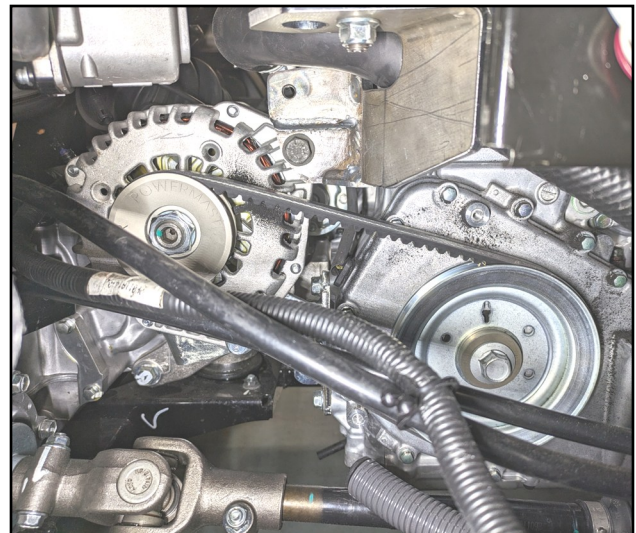

Fig. 3.9 (Install Belt)
- 3.9** Loosen the tensioner so the alternator is rotated all the way down and install new belt provided in kit. See figure 3.9.